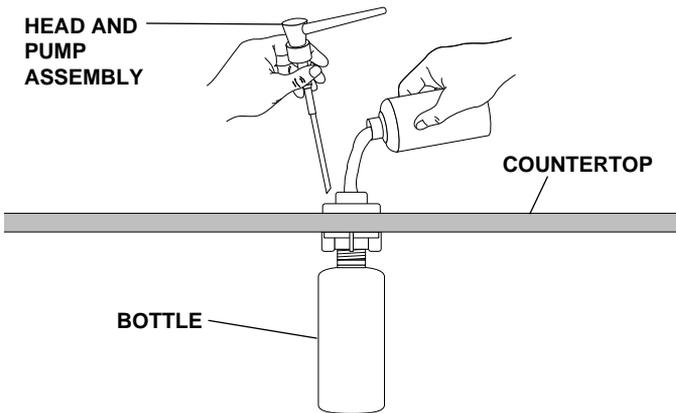

Figure 6. Refilling the Soap Dispenser
*To fill the soap dispenser:* pull the head and pump assembly from the bottle, then fill the bottle with liquid soap (see Figure 6). When finished, push the head and pump assembly back into place.